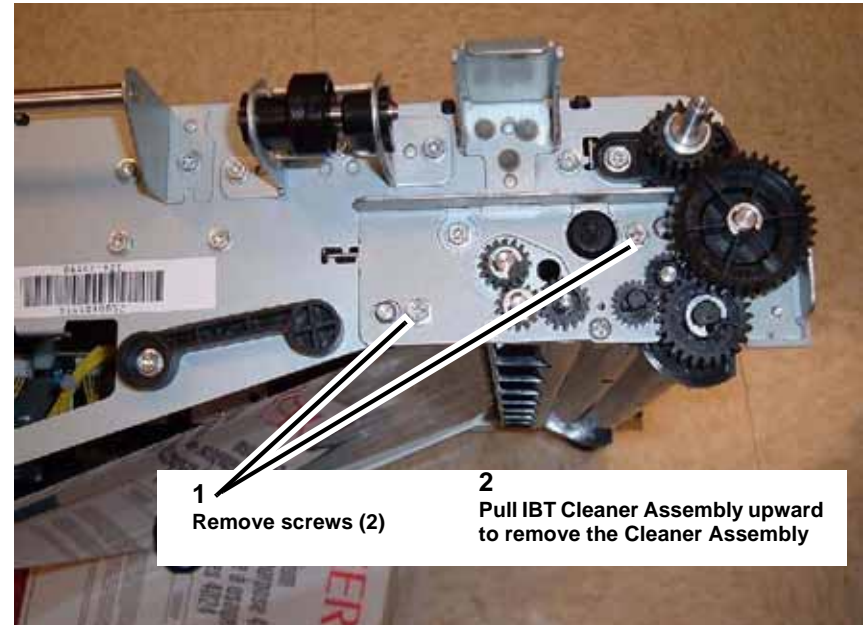

Figure 2 Removing the IBT Cleaner Assembly
2. Remove the IBT Cleaner Assembly (Figure 2).